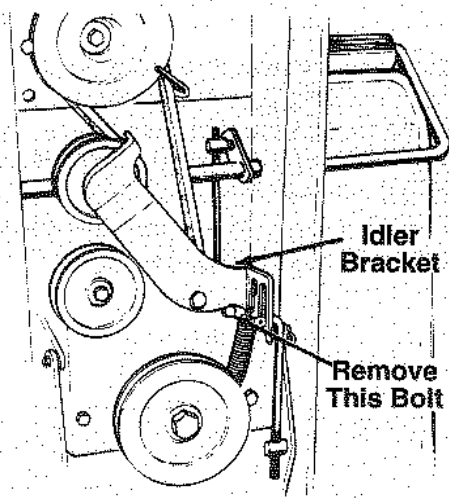

FIGURE 11.
13. A bolt and nut were installed in the channel assembly at the factory to hold the idler bracket during shipping and assembly. Remove this shipping bolt at this time, as shown in figure 11.